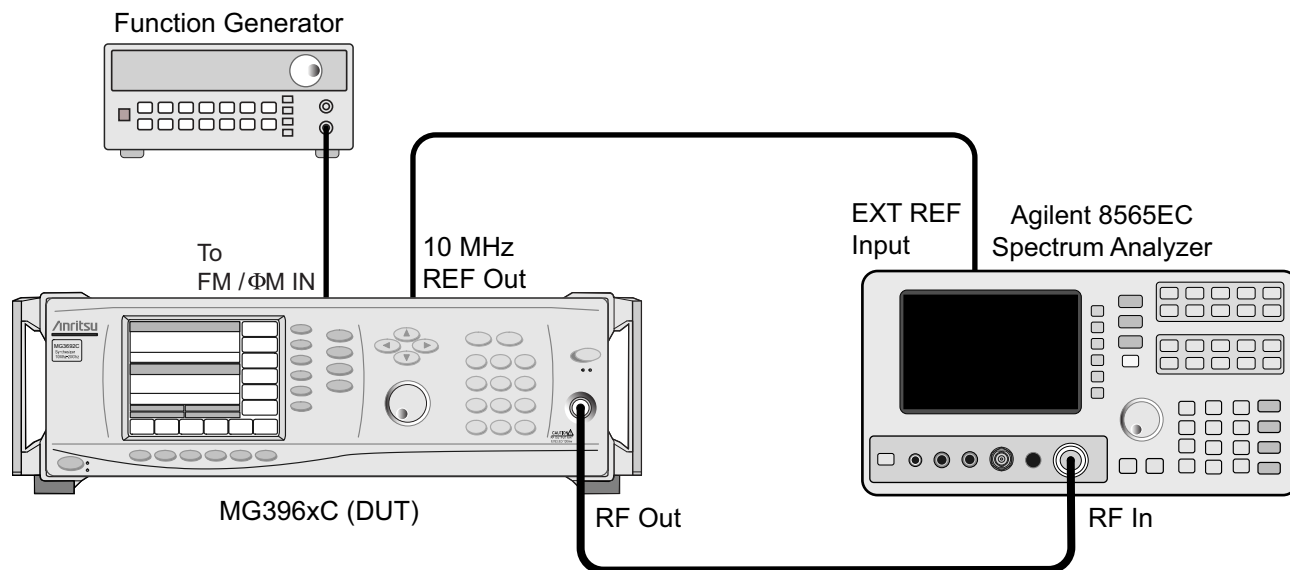

Figure 4-12. Equipment Setup for Frequency/Phase Modulation Flatness and Bandwidth Tests
Set up the equipment, shown in Figure 4-12, as follows:
1. Connect the equipment as shown in Figure 4-12.
- 1. Connect the equipment as shown in Figure 4-12.